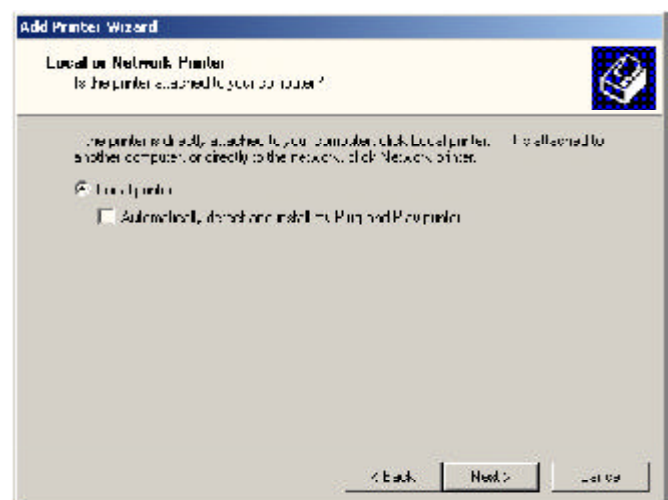

Fig. 4.1
Step 3 Select **Local Printer**, uncheck the **Automatically detect and install my Plug and Play printer** check box, and click **Next**. See *Fig. 4.1*